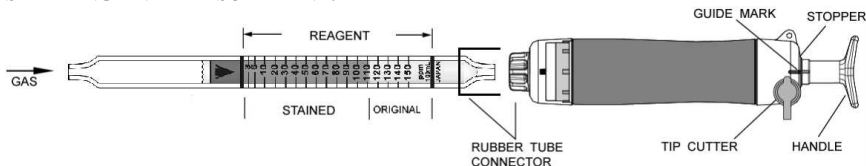

Fig.2
- ② Insert the detector tube into the aspirating pump securely as shown in Fig.2. (Arrow mark shall point to the pump.)
- ③ Align the guide marks on the shaft and stopper of the aspirating pump.
- ④ Pull the pump handle at a full stroke until it locks and wait for 1 minute or until the completion of sampling is confirmed with the flow indicator of the pump. (See descriptions about the flow indicator in the instruction manual of the pump.)
- ⑤ On completion of sampling, read the scale at the maximum point of the stained layer.
- ⑥ When the concentrations are below the scale range, 3 or 4 pump strokes can be used to determine these lower concentrations.